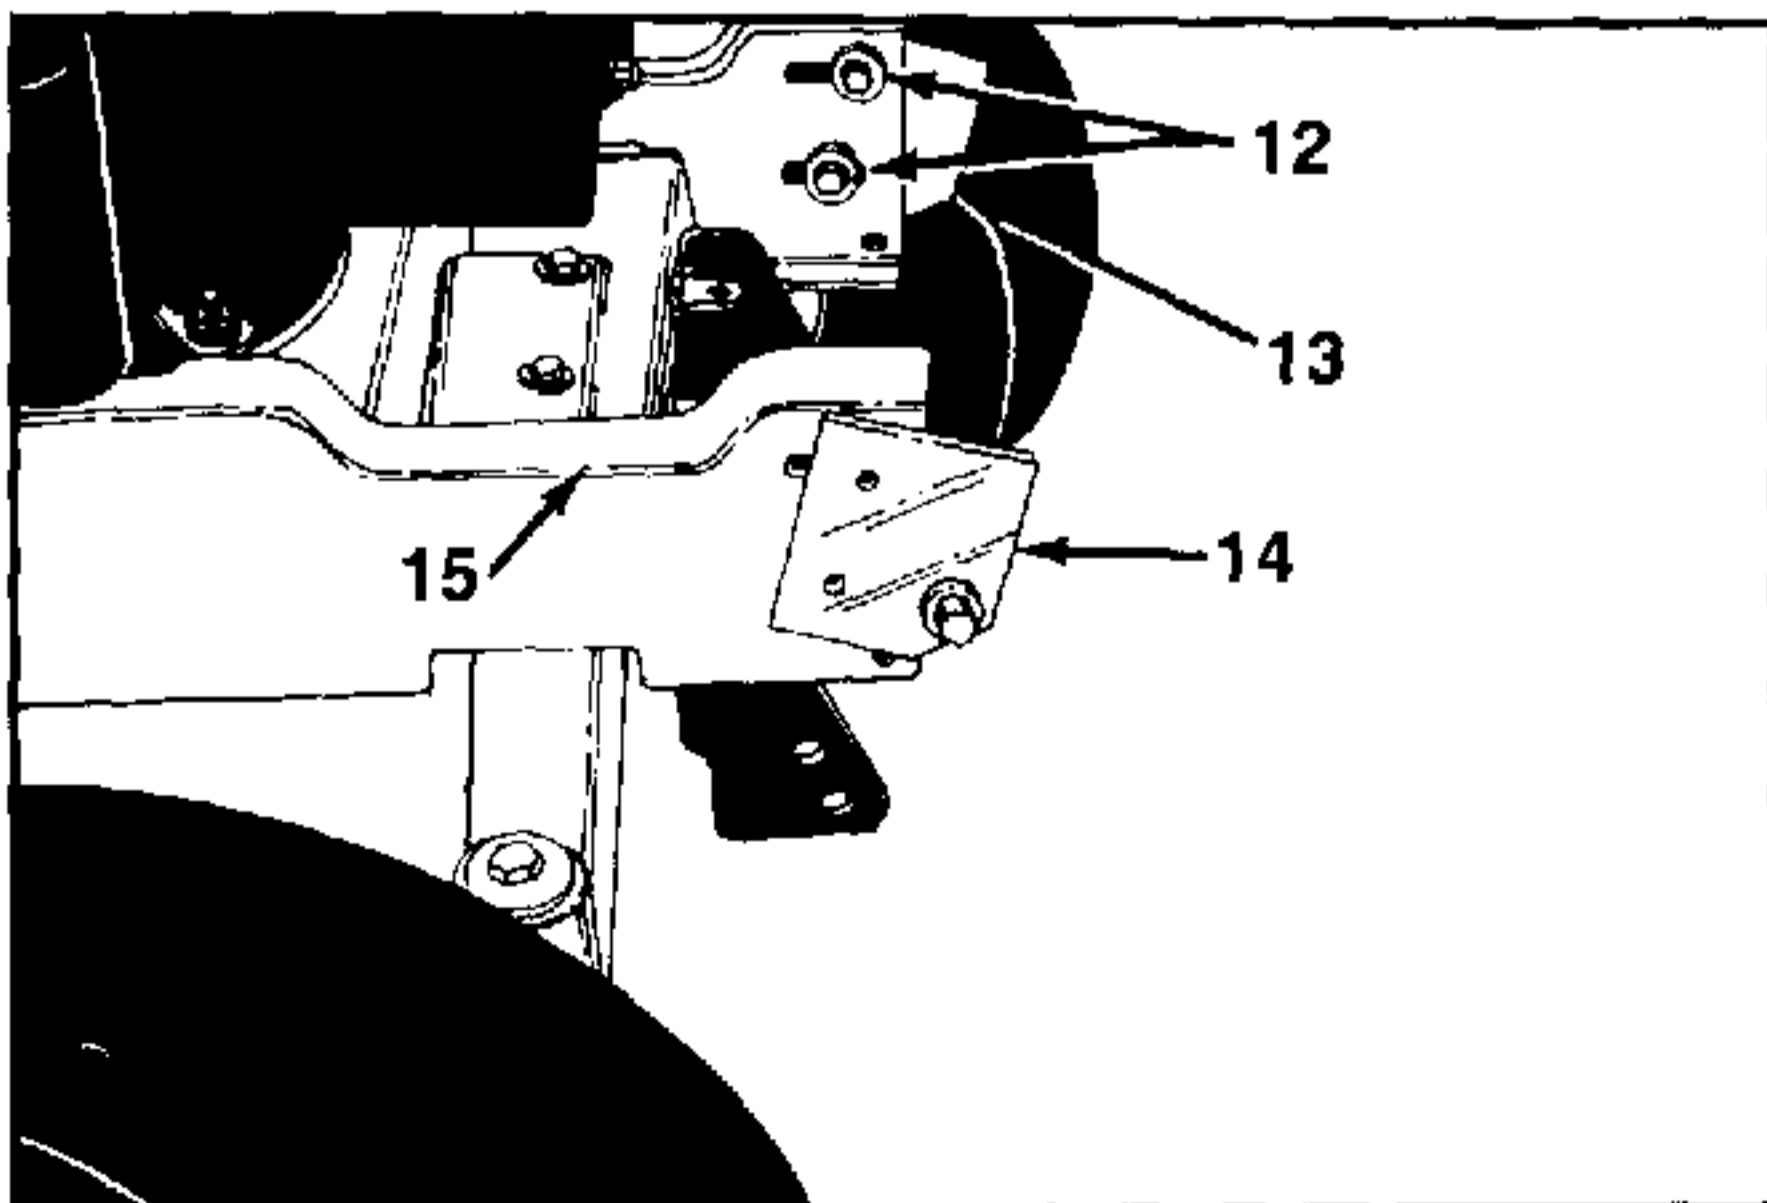

FIGURE 6.
5. Upon removal of extension spring, loosen hex bolts and Belleville washers (Ref. 12) on each side of chassis. See figure 6. Remove one set of bolts and washers from one side only. This will allow you to pull the hood and grille off of the front pivot bracket (Ref. 13 and 14). See figure 6.
Be sure pivot brackets are reassembled as shown in figure 6.